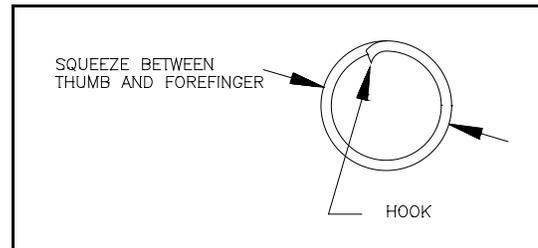

Figure 7.
- 6.5.5 Examine each end of the new pop-out spring carefully. One end has about five closely spaced coils while the other has about six. The end with five coils also has a tiny hook at the end of the wire. See Figure 7. When properly installed, this hook locks the spring onto the collet.
- 6.5.6 Hold the five closely spaced coils (with the hook) and start threading the coil onto the special collet. When the hook reaches a slot it will tend to get caught. Squeeze the coils just behind the hook. See Figure 7. Ease the hook past each slot.